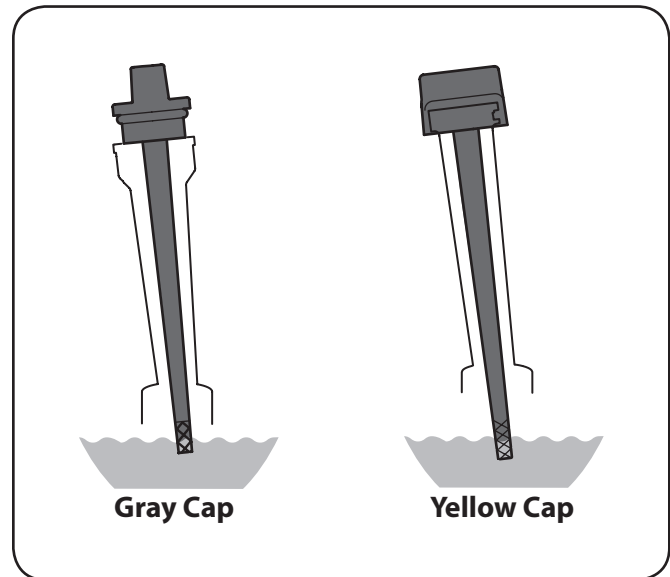

Figure 6-2
4. Refill with the recommended oil and check the oil level. See Figure 6-2. Refer to the Set-Up Section and follow the appropriate instructions for a gray or yellow oil fill cap.